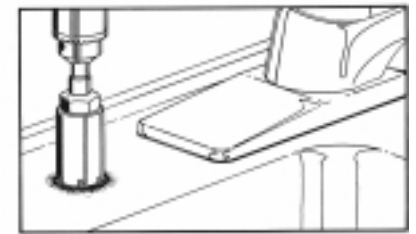

Figure 7 Porcelain Cutter Kit P/N 36201003
1. **CAUTION:** A heavy duty, variable speed drill motor with a spring-loaded porcelain drill set (Figure 7.B.) is strongly recommended for this procedure.
CAUTION: The plastic sleeve supplied on pilot drill (Figure 7.A) is to be positioned on drill bit against drill chuck. This prevents chuck from contacting porcelain after pilot hole has been completed.
Using carbide tipped bit with plastic sleeve (Figure 7.A.), drill pilot hole completely through porcelain and metal underneath.
Place spring-loaded porcelain saw (Figure 7.B.) into drill chuck. Make sure pilot guide is inserted tightly. Insert pilot guide into pilot hole. Push down gently on drill motor to apply light pressure to porcelain surface. Start drill motor turning as slowly as possible.
3. Place finish hole saw (Figure 7.C.) into drill chuck. Make sure pilot guide is inserted tightly. Insert pilot guide into pilot hole. Begin cut using a slow speed and light pressure until porcelain (inside ring cut in Step 2) has been penetrated to material underneath.